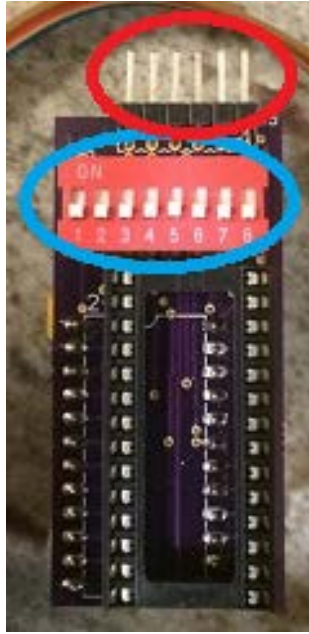

Figure 3 - The SRBP, the six pins, and the eight DIP switches
The first thing to understand about the SRBP is the locations of six (6) pins and eight (8) DIP switches. As shown in Figure 3, the six pins are inside the red circle and the eight DIP switches are inside the blue circle.
These pins connect the associated address lines (a10 – a15) on your chosen PROM, a 27256 or 27512, to the appropriate address lines and socket on the board you are installing the SRBP onto. Figure 3 shows these pins, their respective address lines, and the associated DIP switches.
As shown in Figure 3 and 4, there are eight DIP switches that serve multiple purposes.